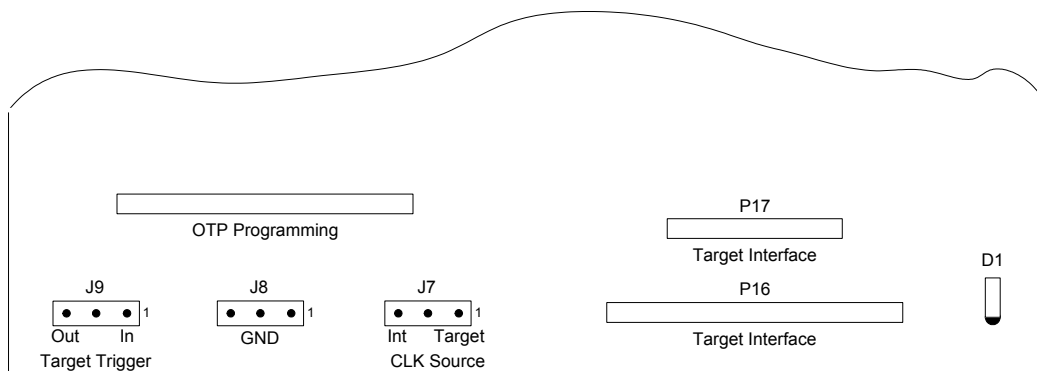

**Figure 3. Crimzon ICE Rear Panel**
2. Connect the serial COM port on the PC to the SETUP serial port on the Crimzon ICE using the DB9-to-DB9 serial cable. See Figure 3.
3. Connect a 5VDC power supply to the Crimzon ICE. The 3.3VDC should illuminate (see Figure 3). If the 3.3VDC LED failed to illuminate or the ICE Fail LED illuminates (see Figure 6), there is a problem with the unit. Contact ZiLOG support at <http://www.zilog.com> for a replacement unit.